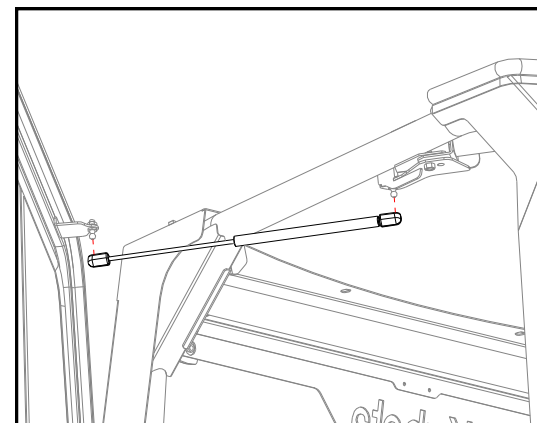

Fig. 22
22. Install gas shock onto ball studs with rod end towards the door. (see fig. 22)